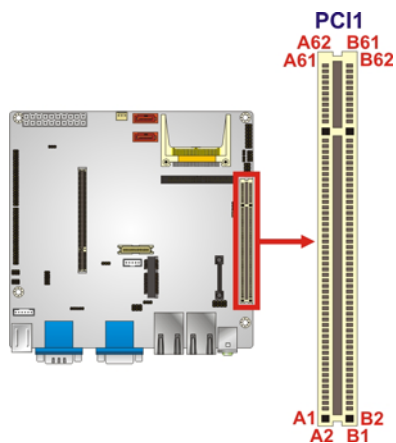

Figure 3-13: PCI Slot Location
- CN Location:** See **Figure 3-13**